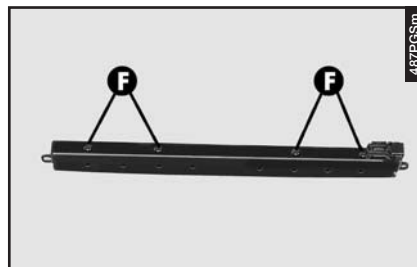

fig. 66
- Slacken the four screws (**F**-fig. 66) fastening the transparent cover.
- Refit the transparent cover locking it with the screws (**F**-fig. 66).